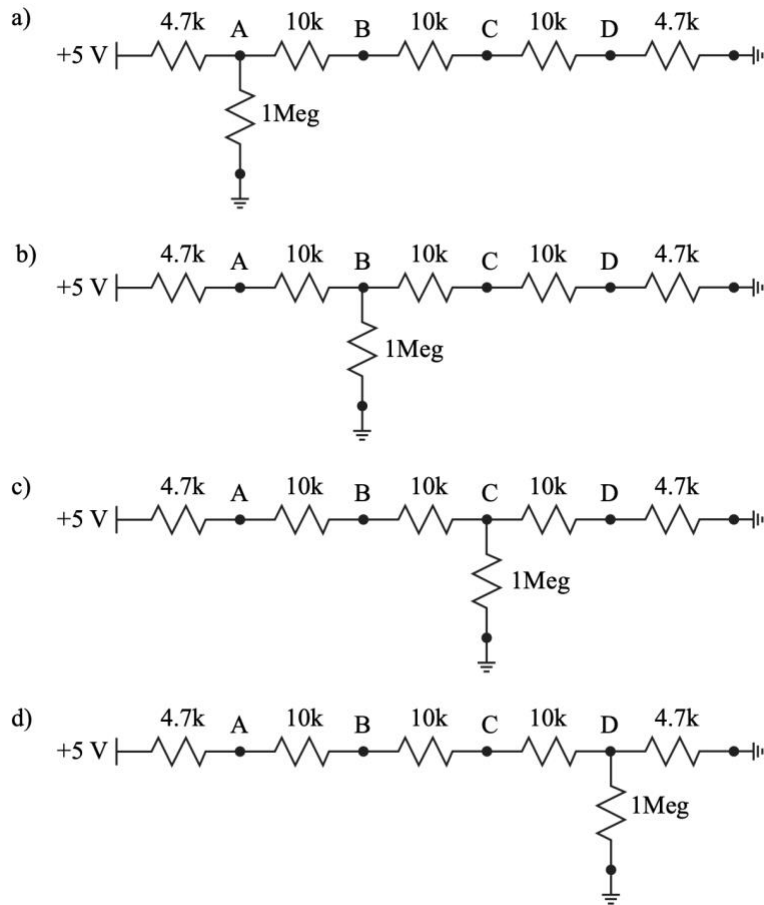

Figure 3.2: Resistor ladder with a 1 MΩ resistor attached at nodes A through D ((a) through (d)).
2. When measuring the node voltages in real life, an oscilloscope is used. The scope probes have a finite input resistance of 1 M Ω . Re-simulate the node voltages with a 1 M Ω resistor at nodes A through D, Figure 3.2 (a) through (d). There should be a total of 4 simulations with node voltages A through D for each simulation. Table the values.